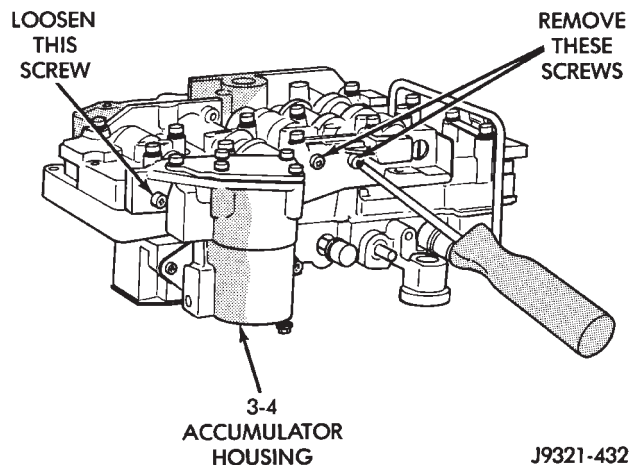

Fig. 58 Accumulator Housing Screw Locations
(24) Loosen left-side 3-4 accumulator housing attaching screw about 2-3 threads. Then remove center and right-side housing attaching screws (Fig. 58).